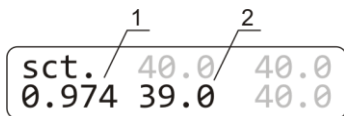

Figure 3. Changing the coefficient:
6.4.6 Using the ▲ and ▼ T, °C keys, change the calibration coefficient (fig. 3/1) so that the new temperature value (fig. 3/2) corresponds to the independent sensor temperature. In our example, the calibration coefficient will be 0.974.